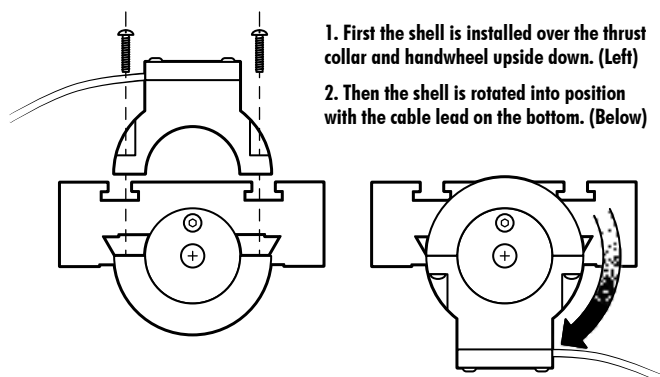

FIGURE 83—Rotating the unit into its proper position. (Note: Handwheel/encoder unit not shown for clarity.)
8. Install the remaining handwheel and encoder unit onto the Z-axis leadscrew. Lift up on the saddle assembly until the washer and shoulder of the leadscrew are all the way up against the bottom of the collar. Then push down on the handwheel and tighten its set screw, being sure to tighten it against a new spot on the shaft. If installed on your machine, reinstall the 5-40 x 3/8" flat head screw through the center of the Z-axis handwheel and into the end of the leadscrew. See "Adjusting the Z-axis handwheel" on page 47 for more details on adjusting this screw. Install the pickup housing over the handwheel unit as shown in Figures 83 and 84. When finished, the cable should exit toward the left when viewed from the front.